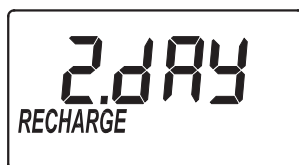

FIG. 31
1. If you completed the previous steps, the words "RECHARGE" and "day" should show in the display (See Figure 31). Otherwise, press the SELECT button several times until they do.